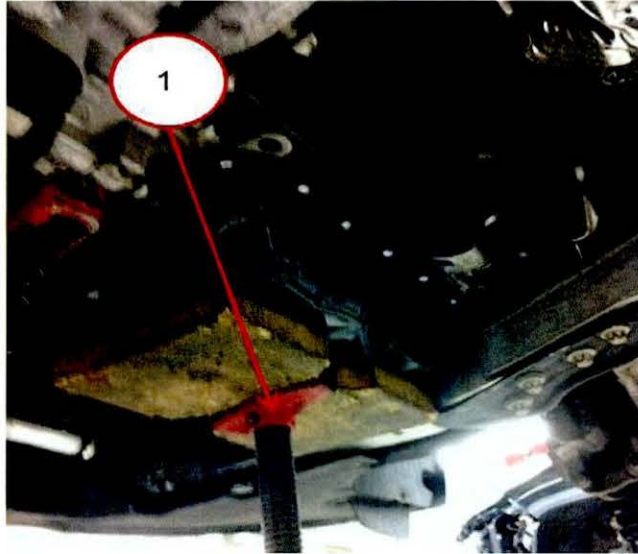

Fig. 4 High Jack Stand
20. Using a suitable high jack stand, support the engine in a stable position (Fig. 4).